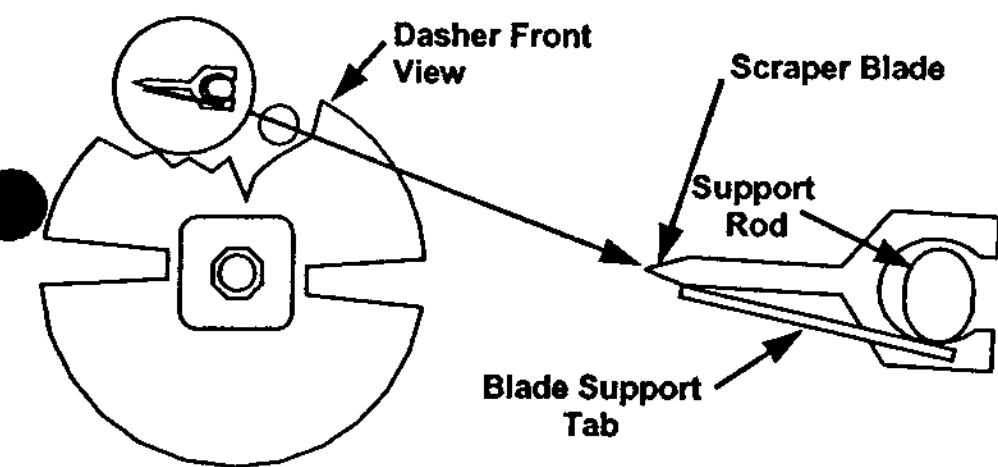
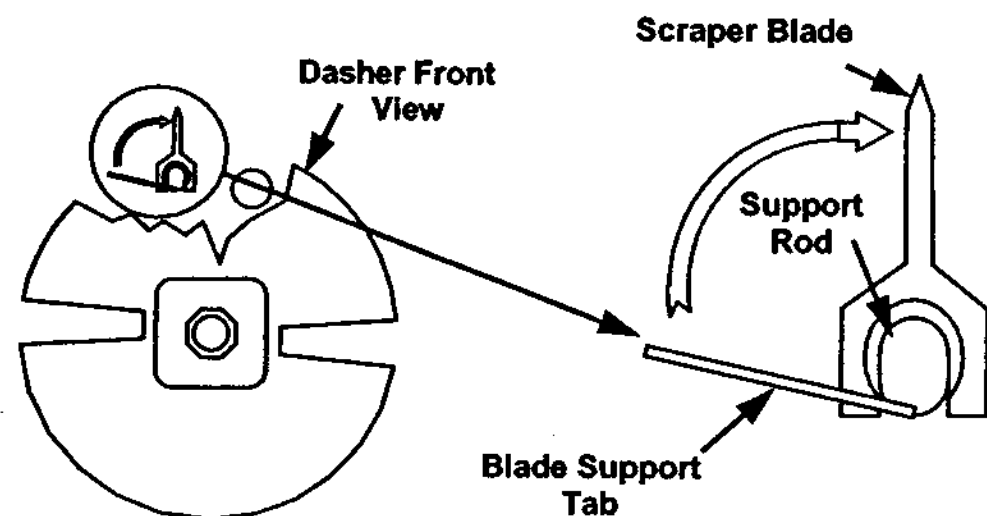

Fig. 9a
Fig. 9b
- Remove the blades from the dasher (Fig. 9a) by first rotating blade upward (Fig. 9b) and then unsnapping one end from the support rod.